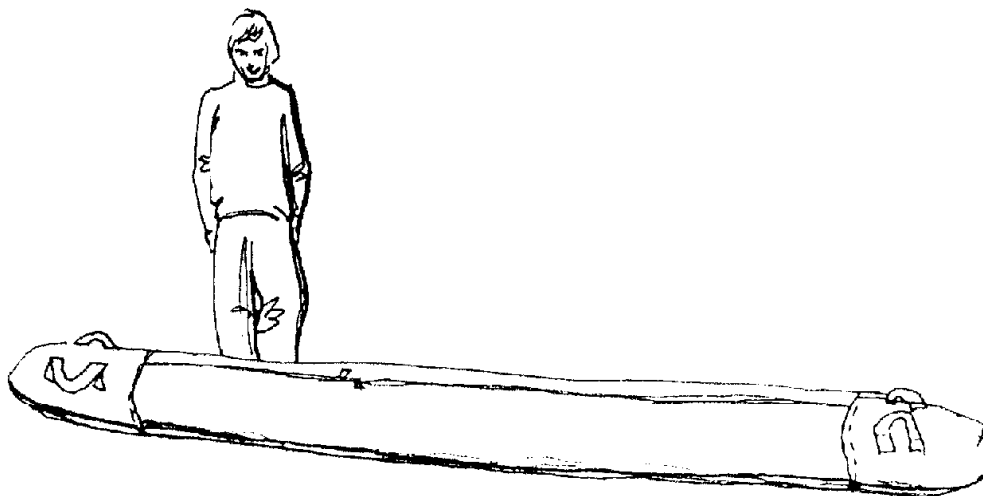

Fig.8
2.2.1. With the glider in the bag (6 meters long) lay the glider on the ground (Fig.8).